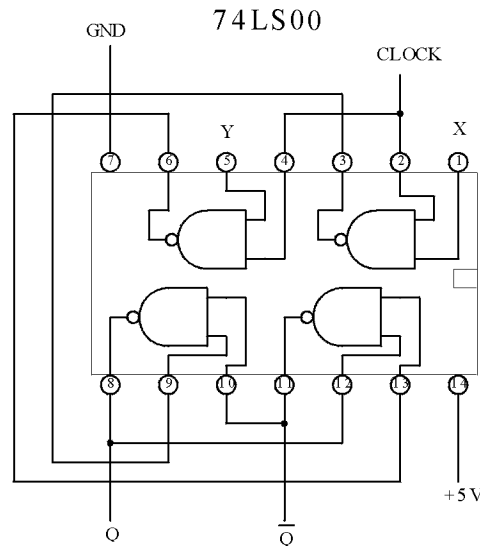
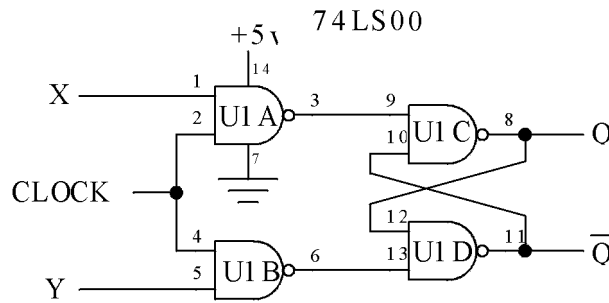

Fig.1. Wiring diagram.
Fig.2. Engineering schematic.
Fig. 1 shows an example of a simple wiring diagram as a student actually wired it on a digital breadboard. Except for the interconnections, no other information is conveyed except what you might conclude from the signal names. Fig. 2 shows this same circuit as an engineering schematic which reflects the way the chip was actually wired
- Use the “unit number” convention for assigning a unique package identifier to each chip. For example, the 74LS00 in fig. 2 is a single chip containing four Nand gates, so the chip is assigned identifier U1 with its internal gates identified by letter suffixes: U1A, U1B ... etc. Variations of this convention exist in industry. Only one of the common gates need show the power connections (pins 7 and 14). This is often omitted but you should include it as a reminder as well as to make your schematic complete.
- Electric potentials (voltages) should increase as you move from the bottom to the top of a page. For example, fig.2 shows the +5V supply upwards while the ground pin is downwards (where “ground” really is).
Always begin and work with a complete and readable engineering schematic that accurately reflects what *has actually been built*. This allows you to reason *from the schematic* while troubleshooting, taking data or making modifications as you go along. Wiring diagrams (fig. 1) can also be quite useful, but they should never substitute for a good engineering schematic.